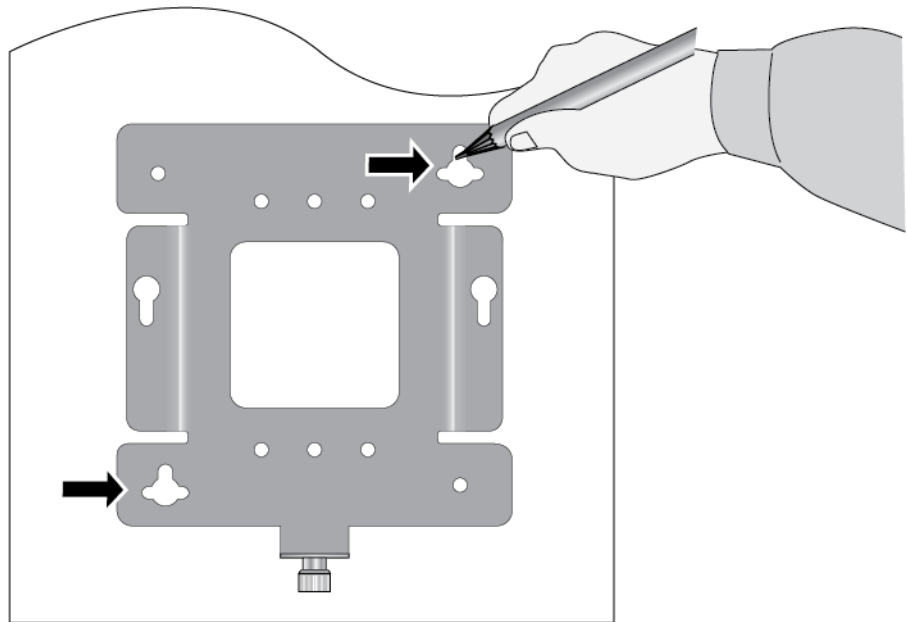

Figure 12. Marking the Holes for the Key-Hole Slots
3. With a pencil, mark the wall or ceiling with the two key-hole slots of the bracket. Refer to Figure 12.